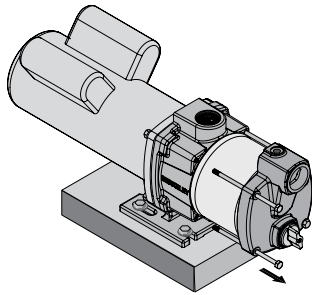

Figure 17
5. Remove four capscrews (Ref. No. 18) from the pump (see Figure 17).